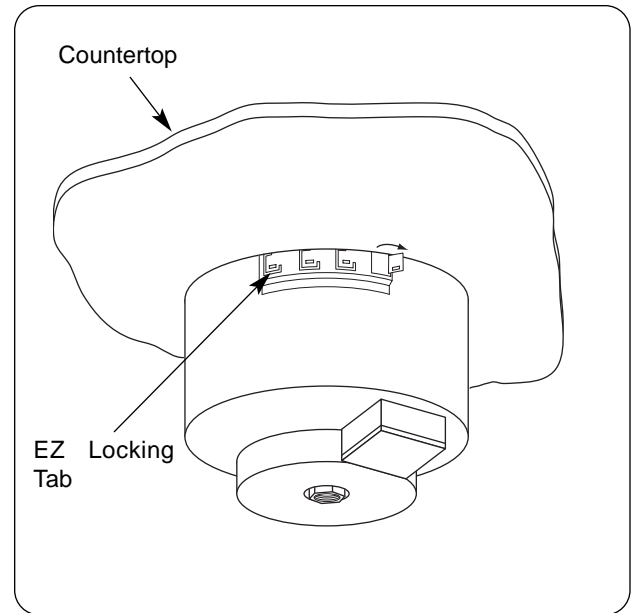

Figure 11. EZ Locking Tabs
5. Use a screwdriver to rotate the EZ locking mounting system on the Built-In Heated Well outward, to secure the unit from the underside of the countertop. Twist as many tabs as needed to secure unit to the countertop. (See Figure 11.)